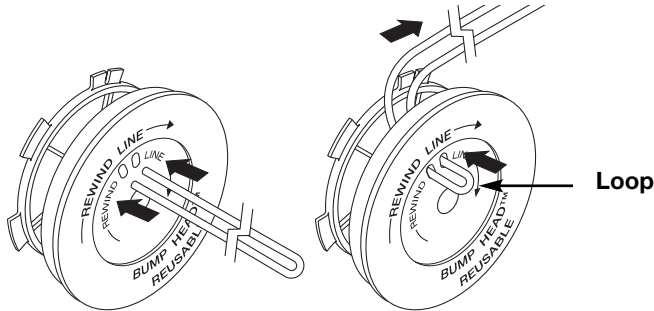

Fig. 20
- Take approximately 20 feet (6 m) of new trimming line, loop it into two equal lengths. Insert each end of the line through one of the two holes in the inner reel (Fig. 20). Pull the line through the inner reel so that the loop is as small as possible.